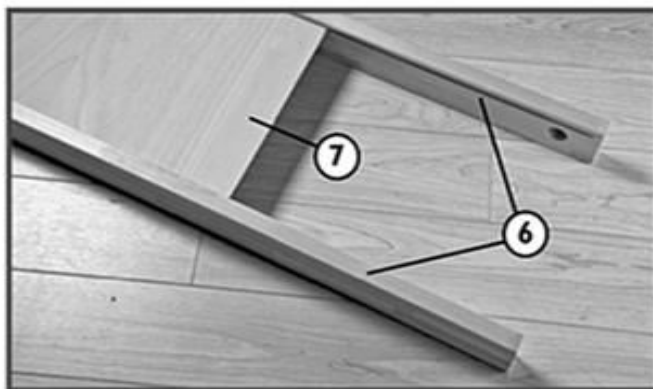

Fig. 2
- Slide the Center Shelf (7) into the grooves of both Middle Stretchers (6) as shown in Fig. 2.